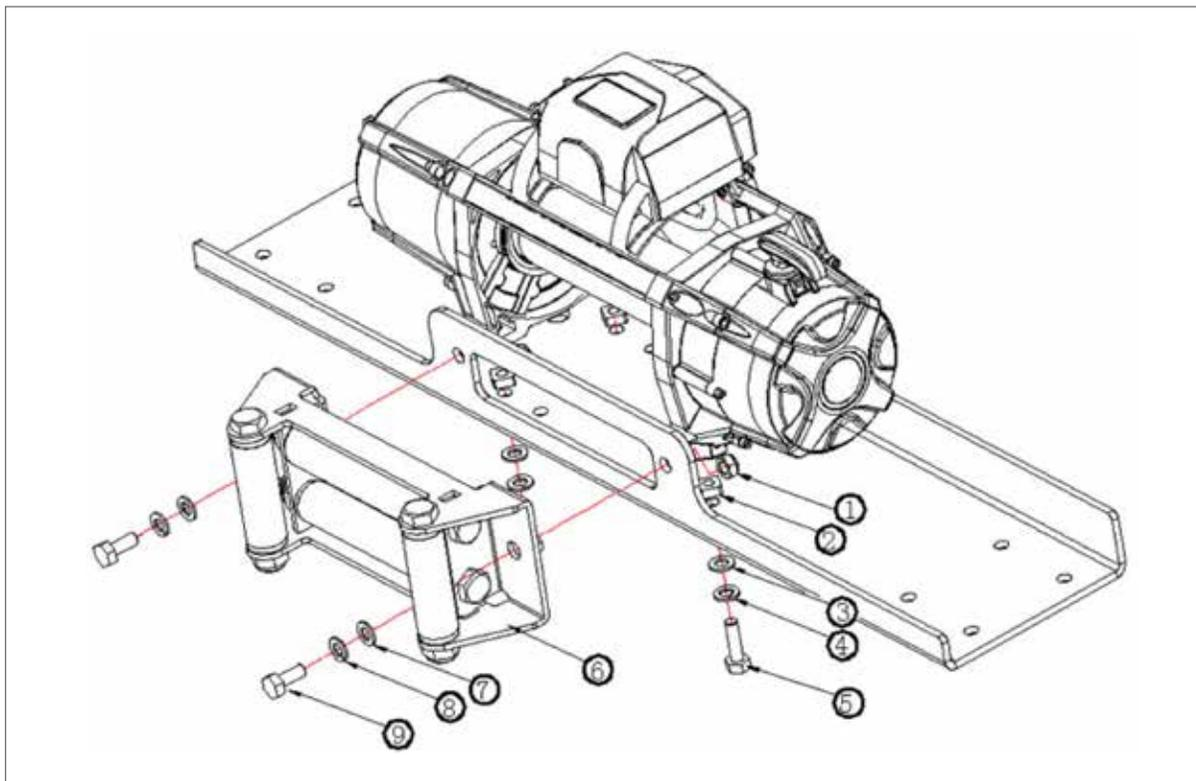

Fig. 3
4.2 MOUNTING THE WINCH (please refer to Fig. 3).